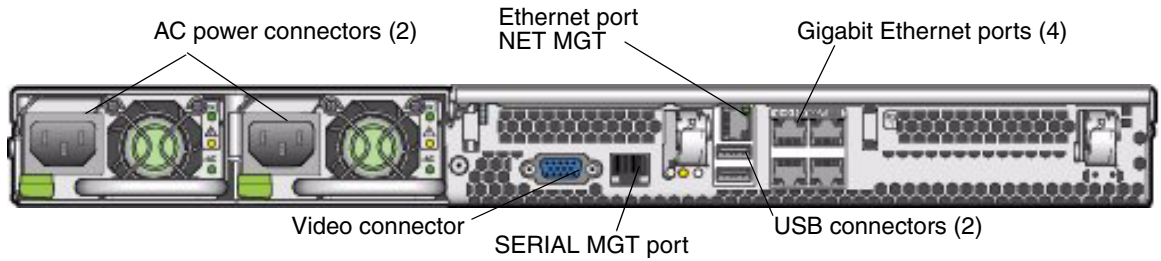
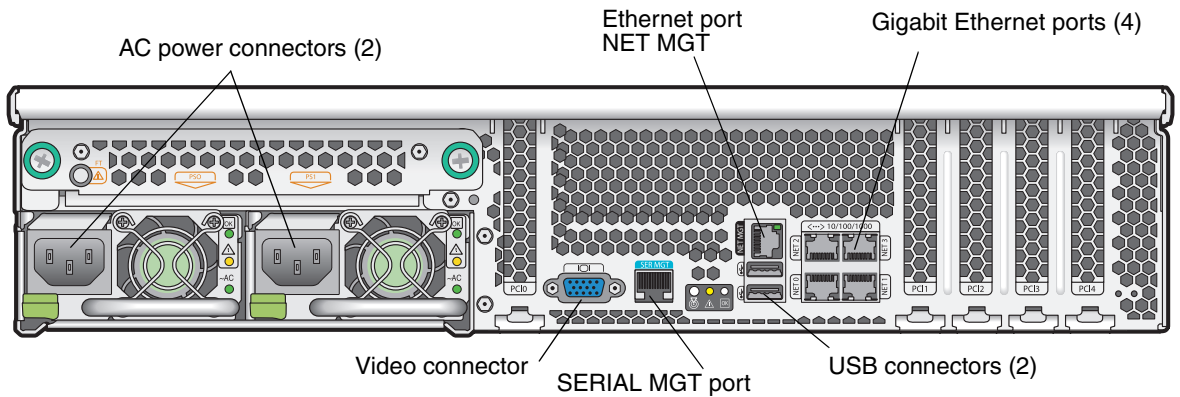

FIGURE 1-11 Sun Fire X4100/X4100 M2 Server Back Panel
FIGURE 1-12 Sun Fire X4200/X4200 M2 Server Back Panel
Attach cables to the back panel connectors of your server as required. See FIGURE 1-11 or FIGURE 1-12.
3. **Connect a serial cable from the RJ-45 SERIAL MGT port on the server’s back panel to a terminal device.** See FIGURE 1-11 or FIGURE 1-12 for the location of this port.